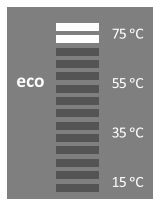
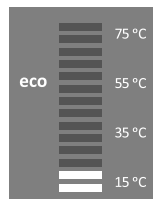

Fig. 10a: Anti-Legionella program activated
Fig. 10b: Anti-Legionella program deactivated
Press and hold (3 seconds) the  key to switch off the heat pump. The electronic controls switch to standby mode. Press the  key briefly for seven (7) times to display the current anti-Legionella function status. The function status is indicated by LED1 or LED7. If LED1 is lit, then the anti-Legionella program function is switched off (Figure 10b). If LED7 is lit, then the anti-Legionella program function is switched on (Figure 10a). Briefly press the  key again to change the setting. The setting is stored when the  key is not pressed for 5 seconds. The electronic controls return to standby mode. Press and hold (for 3 seconds) the  key to switch on the appliance again.